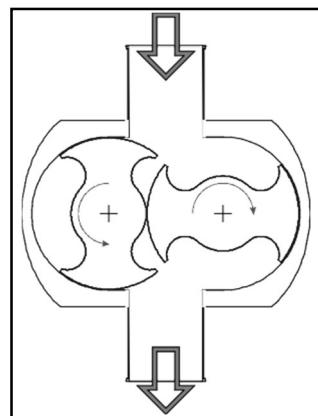

Figure 10.
- Motor is wired for correct direction of rotation - see Figure 10.
(see Figure 10 and 11)